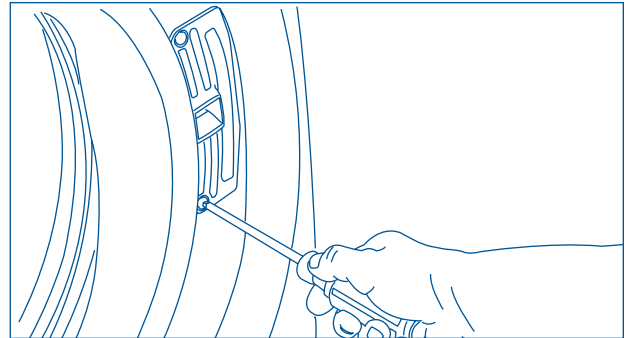

Figure 4-13.
1. Using a #2 square bit screwdriver, remove 2 short course-thread, panhead screws from the door lock. (See Figure 4-13)